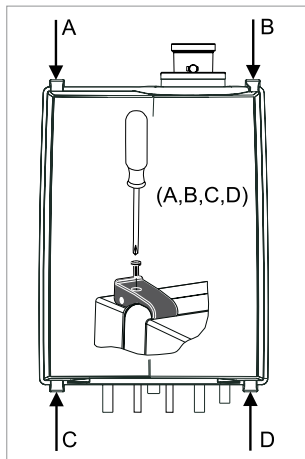

Figure 14
- remove the screws from the 4 quick fasteners A, B, C and D (see fig. 14);